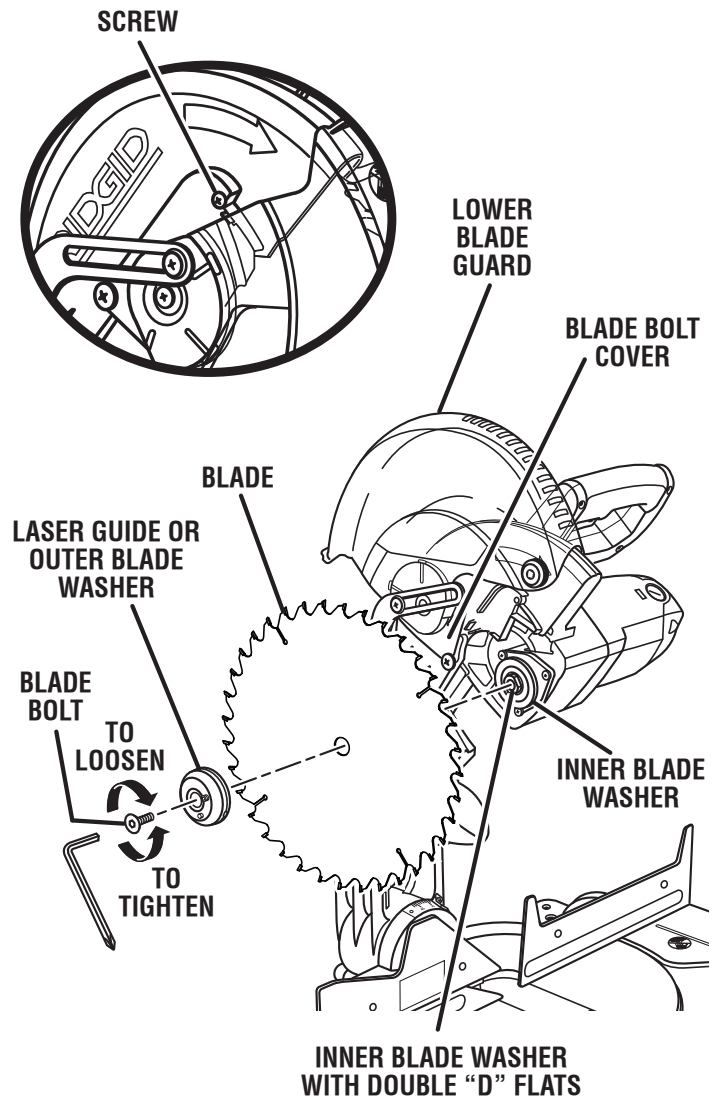

Fig. 13
See Figure 13.
- Fit saw blade inside upper blade guard and onto spindle. The blade teeth point downward at the front of saw as shown in figure 13.